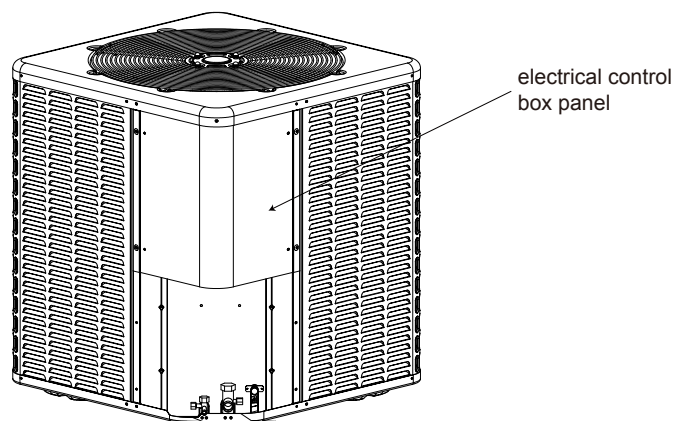

Figure 13-2.
1. Remove the electrical control box panel. Refer to Figure 13-2.